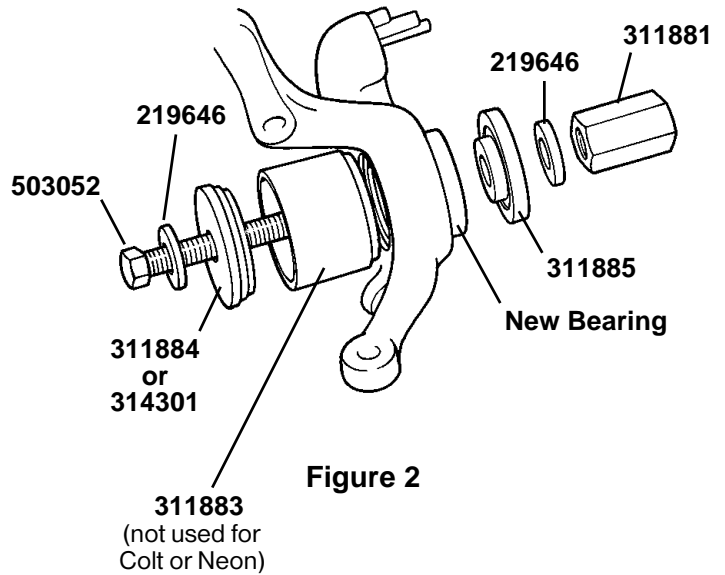

Figure 2
3. Lightly lubricate the new bearing, and position it for installation with the tool components assembled as shown in Figure 2. Press the bearing into the spindle assembly until it bottoms.